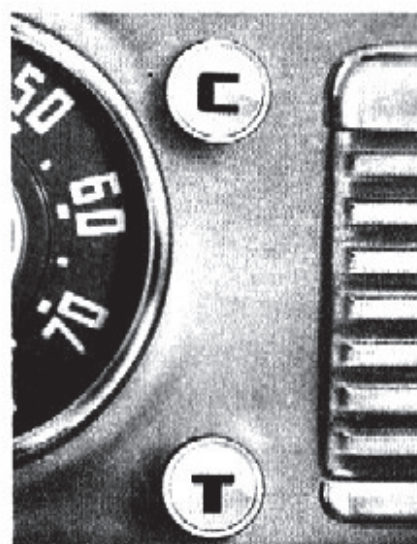

Fig. 8—Throttle and Choke Controls
**Hand Throttle Control.** The throttle control knob is located on the instrument panel directly above the ignition switch (fig. 8). Pulling out on the control knob opens the carburetor throttle to provide a uniform engine speed above the idle setting. It is generally advisable to pull the hand throttle control out slightly when starting the engine, especially
**Choke Control.** The carburetor choke control knob is located directly above the hand throttle control knob (fig. 8). The purpose of this control is to close (or partly close) the carburetor choke valve. This restricts the air intake and produces a richer fuel mixture for starting while at the same time opening the throttle by means of a fast idle link on the carburetor on all truck models except those equipped with an updraft carburetor.